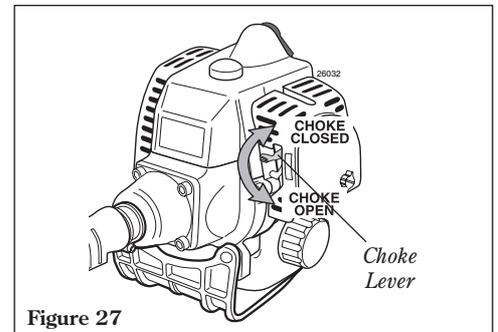

Figure 27
6. When the engine starts, slowly move the choke lever to the "OPEN" position. See Figure 27. (If the engine stops after the initial start, close the choke and restart.)